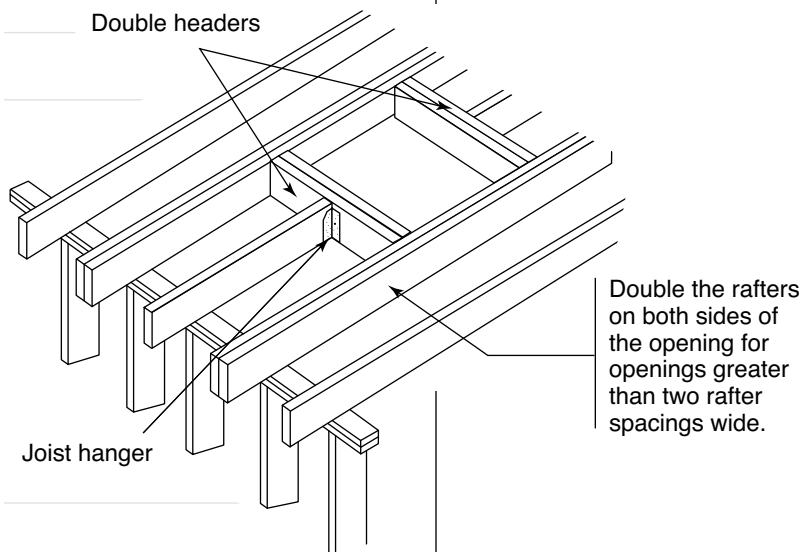

FIGURE 18
- ◆ When a rafter is cut, double rafters should be installed on each side of the skylight area. Place double headers between the double rafters, and securely fasten cut rafters into the double headers. Joist hangers can be used to connect cut rafters to the double headers. The headers will transfer the loads from the cut rafters to the adjoining rafters (see Figure 18).